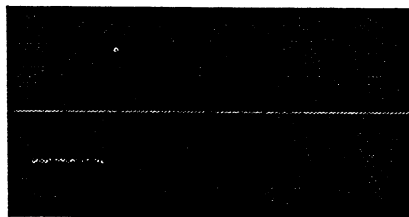
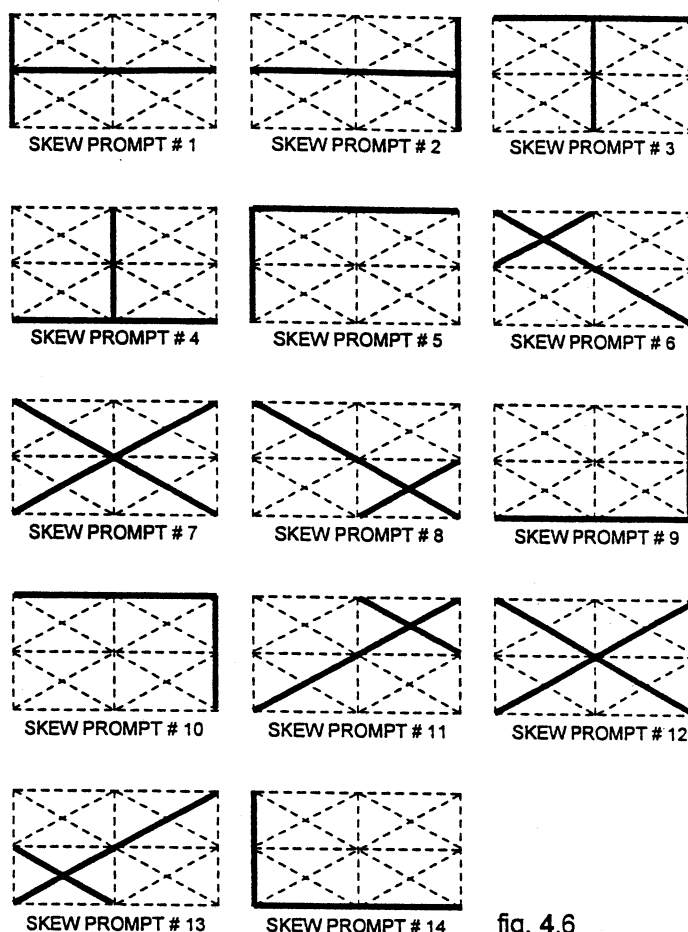

fig. 4.5
fig. 4.6
D. Momentarily engage the Supervisor's keyswitch. You will be brought to the Skew Alignment screen (See fig. 4.5). The only text on the screen should read "SKEW PROMPT : 01." You should be standing square in front of the machine, not off to one side, and you should have your arms against your sides. With your active hand, reach out with your index finger only, and touch the screen for 1/2 second over where the two red lines intersect (half-way up the screen on the very left edge). If you were successful, the intersection should have moved over to the right side of the screen. The text should now say "SKEW PROMPT : 02." Refer to fig. 4.6 for the sequence of the skew prompts. There are 14 in all. Be sure not to touch anything with your inactive hand during the alignment procedure. The touchscreen is very sensitive in this mode. After the procedure is complete, you will be returned to the previous screen, where you should test your work. If for some reason the zeros seem to come up farther out towards the edges of the screen than where you're